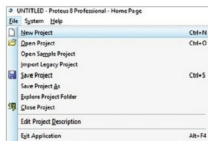

Fig. 19: Creating a project in Proteus
2. To create a new project, go to File→New Project (Fig. 19). It will lead you to New Project Wizard, which helps to create a new project. Give sufficient details like schematic design, PCB layout and firmware. Select default value if you do not know the specifics, or create it later.